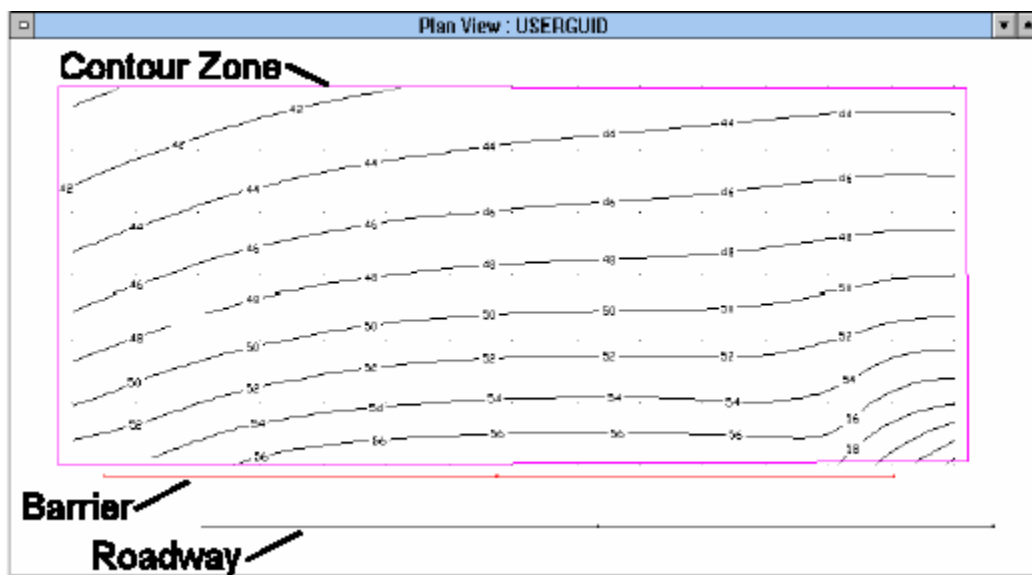

Figure 61. Calculated Sound Level Contour
A Sound Level Contour displays your computed A-weighted sound levels for the defined contour zone using the user-defined range and step size (see Section 12.1). To calculate a sound level contour: (1) select a contour zone within the contour zone input dialog or by using the mouse to double-click on it in the Plan View (To create a contour zone, see Section 8.10); and (2) select **C**ontours, **C**alculate **S**ound **L**evel **C**ontour from the main menu. Note: The Plan View must be active for Calculate to be available. TNM will display a pop-up box that shows you the selected contour zone's name, and allows you to select a barrier design for contour computations. A Remembered barrier design is required because TNM needs to know what sound level results to compute contours for since contour computations will not be computed for all barrier designs, i.e., perturbation-height combinations. An example display of calculated sound level contours within your defined contour zone is shown in Figure 61.